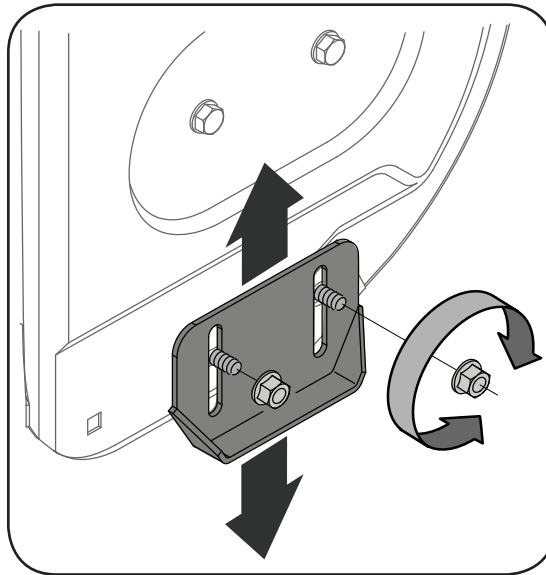

Figure 5-4 - Standard Skid Shoe
4. If adjustment is necessary, loosen the lower hex nut on the drive cable index bracket and pivot the bracket upward or downward as necessary. Refer to Figure 5-4. Tighten the lower hex nut to secure the bracket when correct adjustment is reached.
1. Adjust skid shoes by loosening the four lock nuts and carriage bolts and moving skid shoes to desired position. See Figure 5-4 or 5-5.